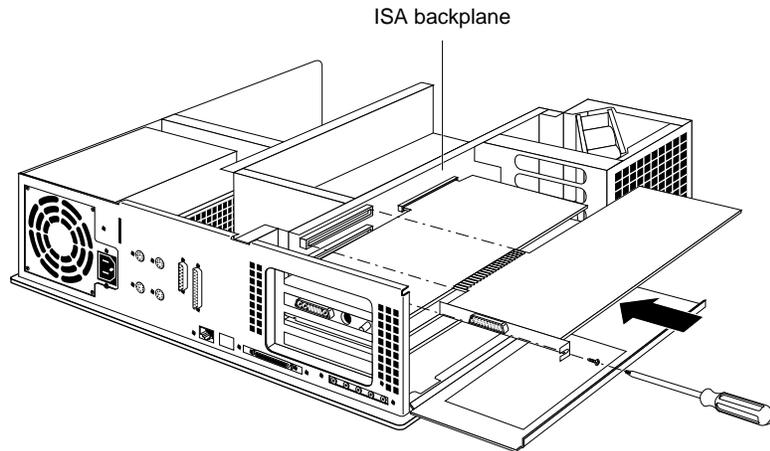

Figure 2-6 Installing the ISA Sync Board
- Align the connector on the left side of the board with the connector opening on the left. Push the board into the slot until the connector on the back of the board is securely connected to the port on the backplane, as shown in Figure 2-6.